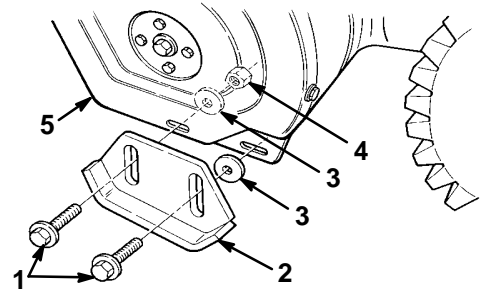

Figure 16
3. Remove two flange bolts and flat washers that secure the ends of the scraper to the side plates (Fig. 16).
4. Install the bolts through the rear slots in the skids, with the **washers between the skids and the side plates** (Fig. 16). Do not tighten the bolts.